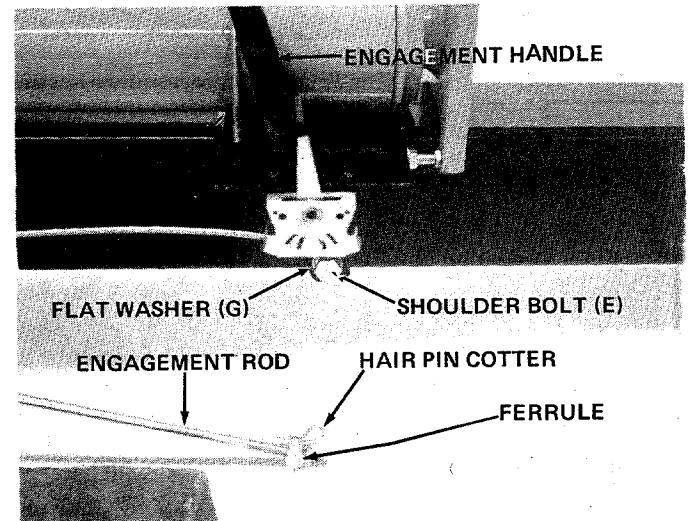

FIGURE 5
- Secure engagement handle to beam with shoulder bolt (F) and flat washer (G). See figure 5.
- Secure engagement rod to engagement handle with hair pin cotter. See figure 5.